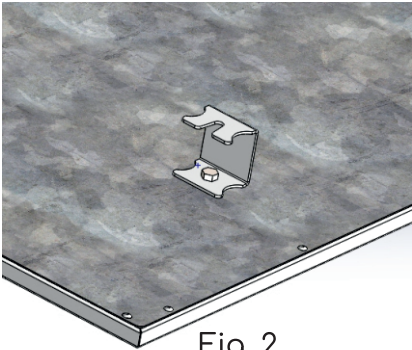

Fig. 2
7. Install ceiling brackets on the heater (see Fig. 2) with the use of appropriate screws.